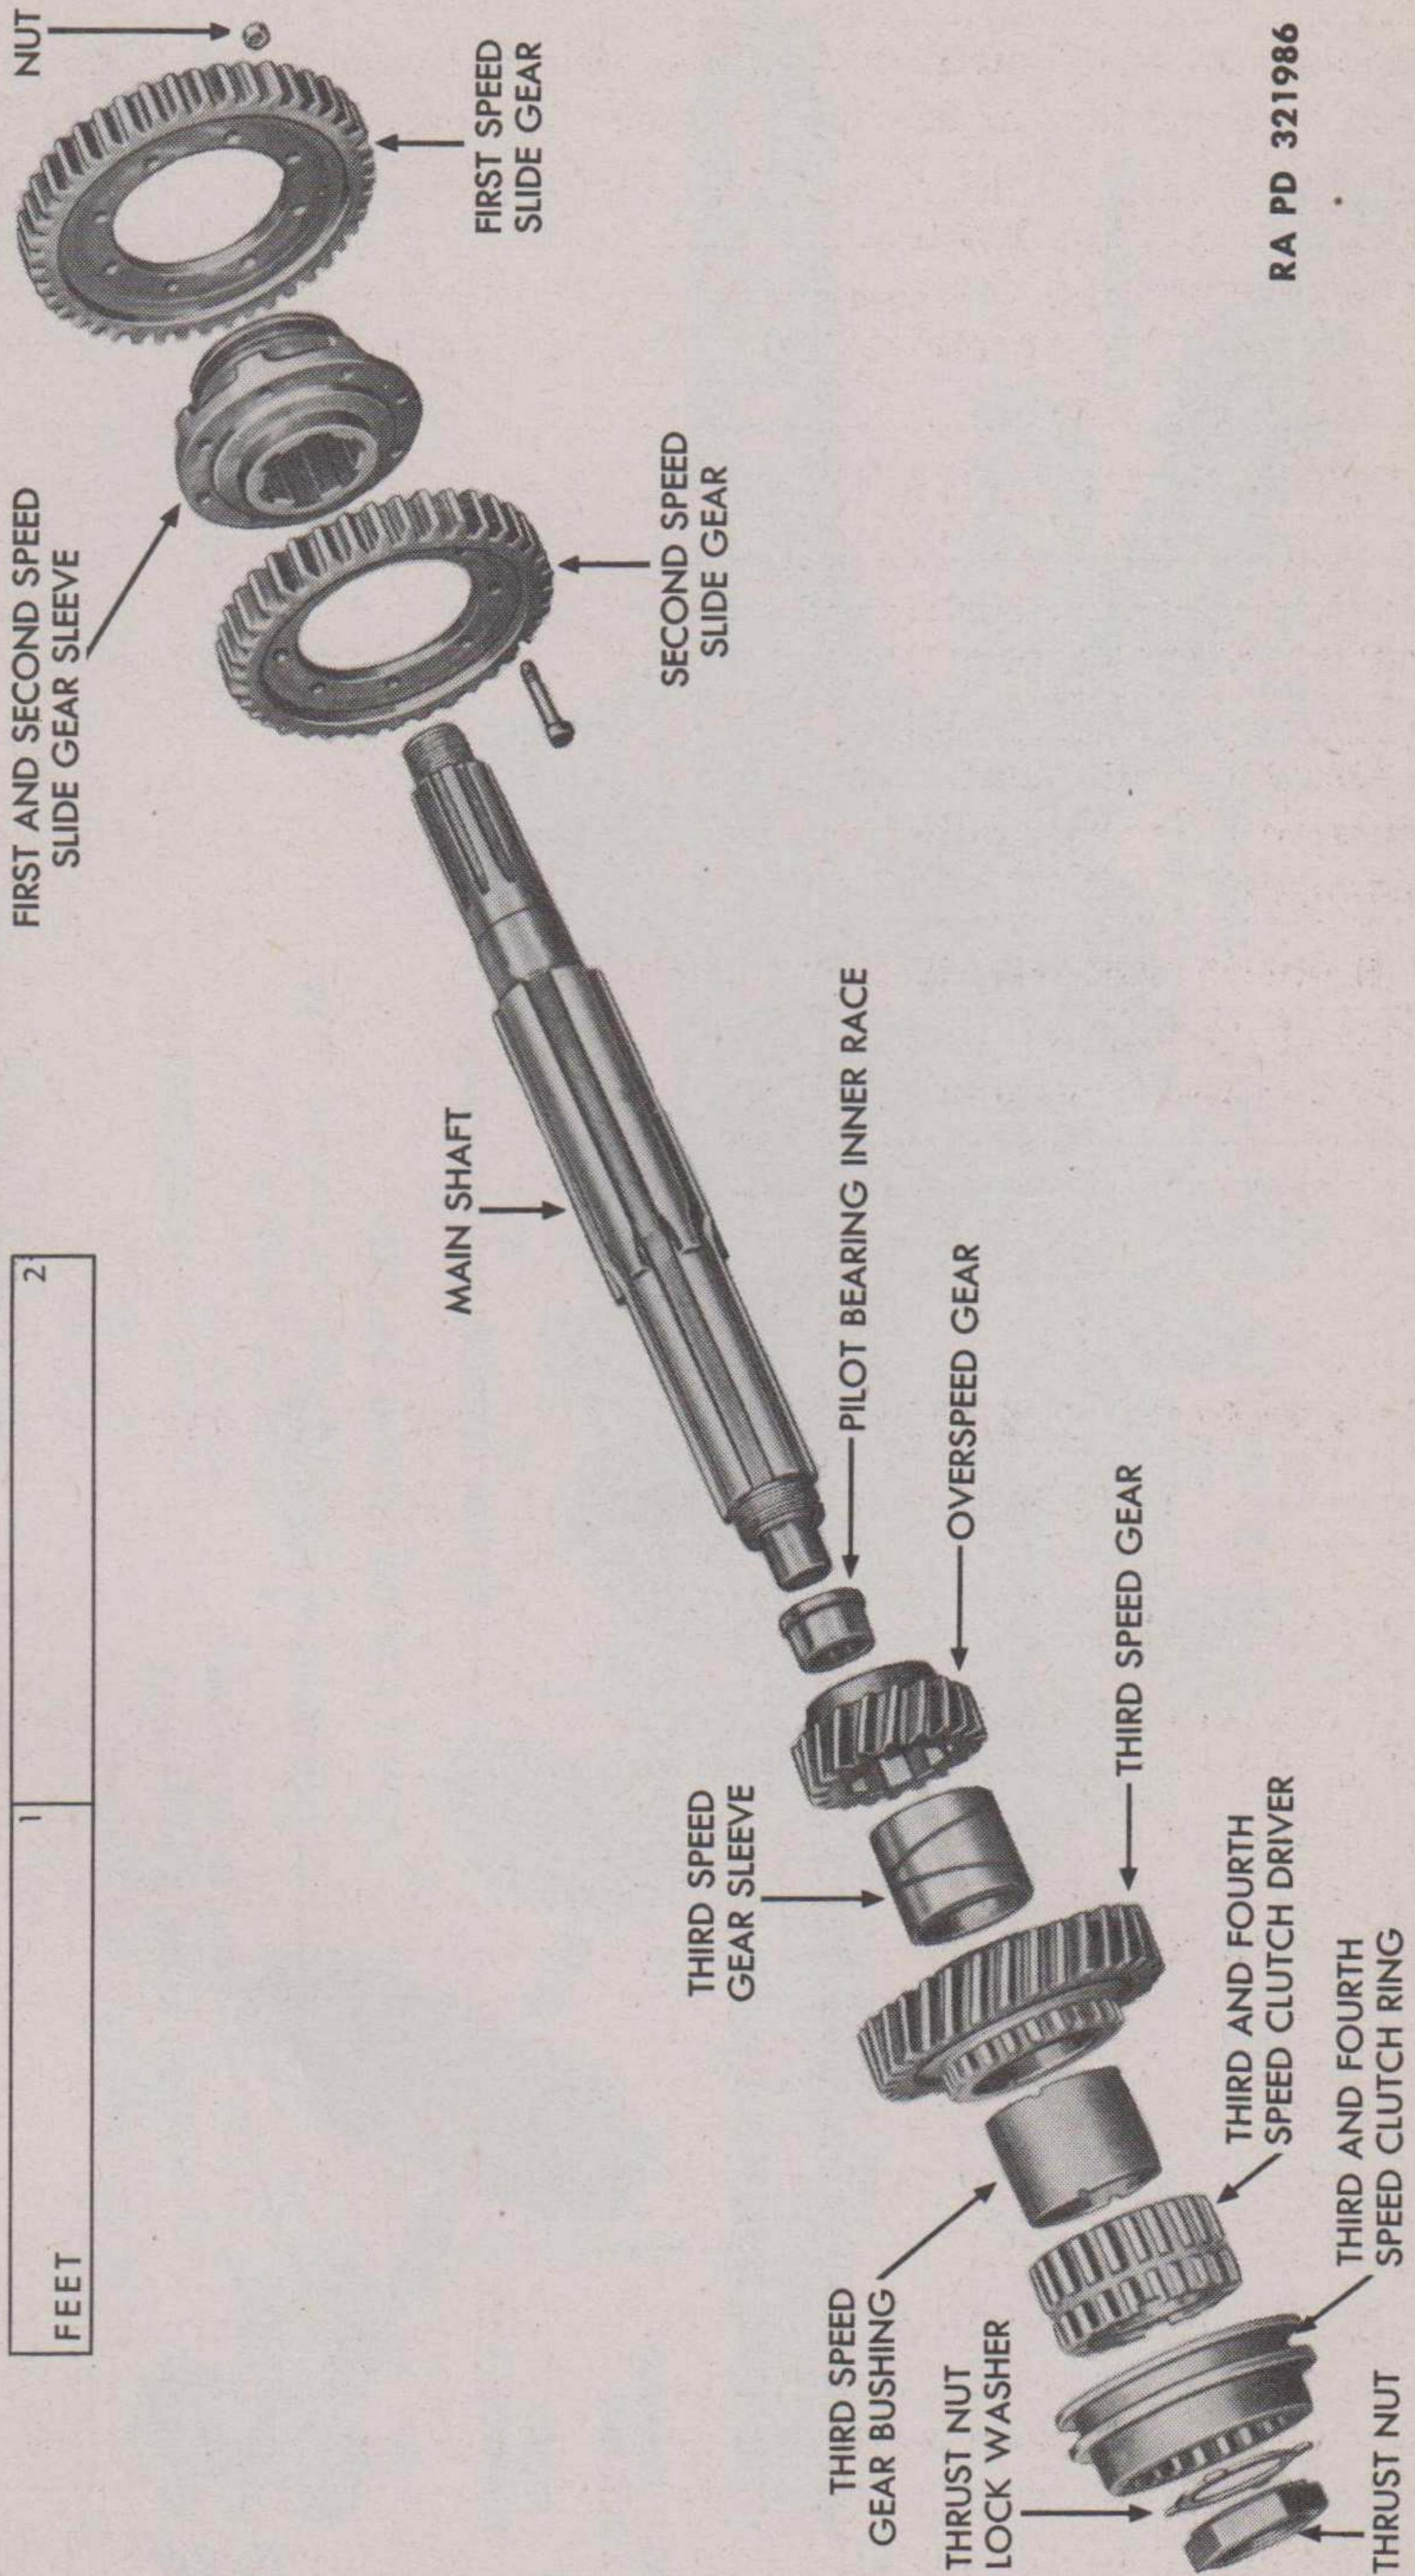

Figure 12 — Mainshaft Disassembled
a. Disassembly (fig. 12). Slide third and fourth speed clutch ring off clutch driver. Slide first and second speed slide gear assembly off mainshaft. Remove mainshaft thrust nut and lock washer. Place assembly in an arbor press and press mainshaft through over-speed gear, third speed gear, and the third and fourth speed clutch driver. Pull main drive gear bearing inner race off end of mainshaft. To disassemble first and second speed slide gear assembly, remove eight nuts, tap out bolts, and pry gears off gear sleeve. Remove bushing from third speed gear only if damaged or worn. See subparagraph **b**, below.
c. **Assembly (fig. 12).** Press overspeed gear on shaft with an arbor press. Slide third speed gear sleeve in position on shaft. Slide third speed gear with installed bushing onto sleeve. Press third and fourth speed clutch driver on shaft. Install thrust nut lock washer and nut, tighten nut, and bend edge of lock washer over nut. Press main drive bearing inner race on end of shaft. Slide clutch ring over clutch driver. Assemble first and second speed slide gears by lining up both gears with bolt holes in gear sleeve, inserting bolts, and threading on nuts. Tighten nuts and peen over ends of bolts. Slide this assembly into position on shaft.